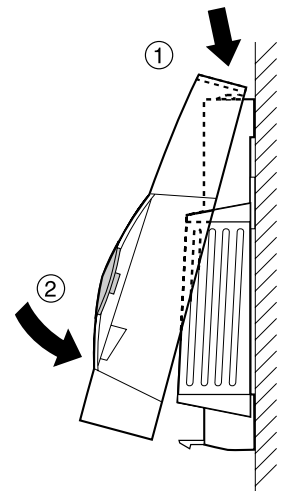

Fig. 13: Placing housing cover in position
- ▶ Place the housing cover in position above and snap it down (see Fig. 13).
- ▶ Place the housing cover in position above and snap it down (see Fig. 13, Page 6).
- ▶ Place the housing cover on at the top and latch it in downwards (see Fig. 13, Page 6).